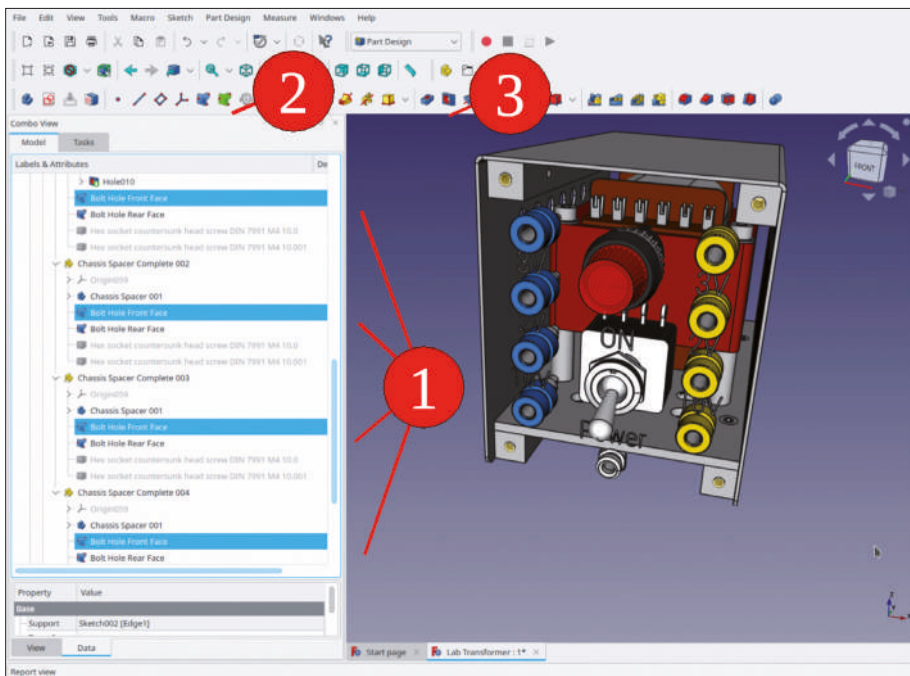

Figure 9-159
24. In the tree view, in all versions of the 'Chassis Spacer Complete', mark the shape binder 'Bolt Hole Front Face' (Figure 9-159).